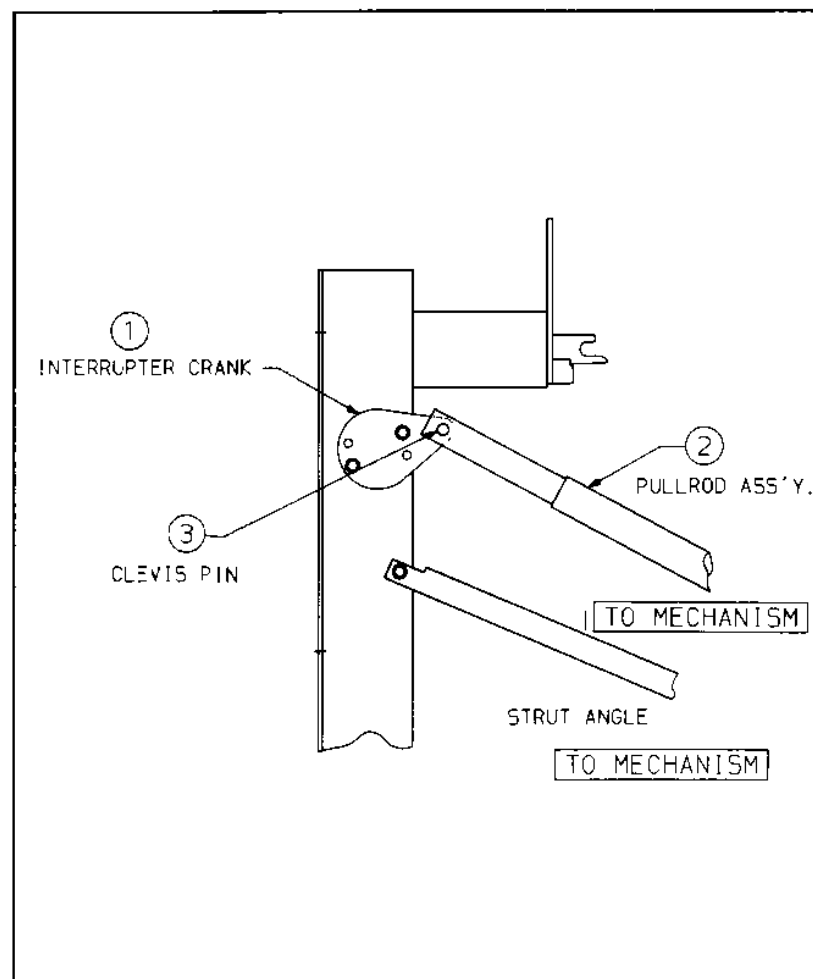

Figure 9b
f. Figure 9B, Disconnect pullrod assembly (#2), between mechanism and interrupter, from interrupter crank (#1) by removing cotter key and clevis pin (#3). DO NOT disconnect by removing bolts.
i. Figure 9B, Adjust pull rod assembly (#2) until hole in pullrod (#2) lines up with hole in interrupter crank (#1). Reconnect using clevis pin and cotter key (#3). (NOTE: Clevis pin should be loose.)
- Figure 9B, Disconnect pullrod assembly (#2) from the interrupter switch crank (#1) by removing cotter key and clevis pin (#3). **DO NOT** disconnect by removing bolts.